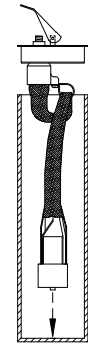

FIGURE 1
4. INSERT SENSOR CAP INTO PIPE (FIGURE 1).